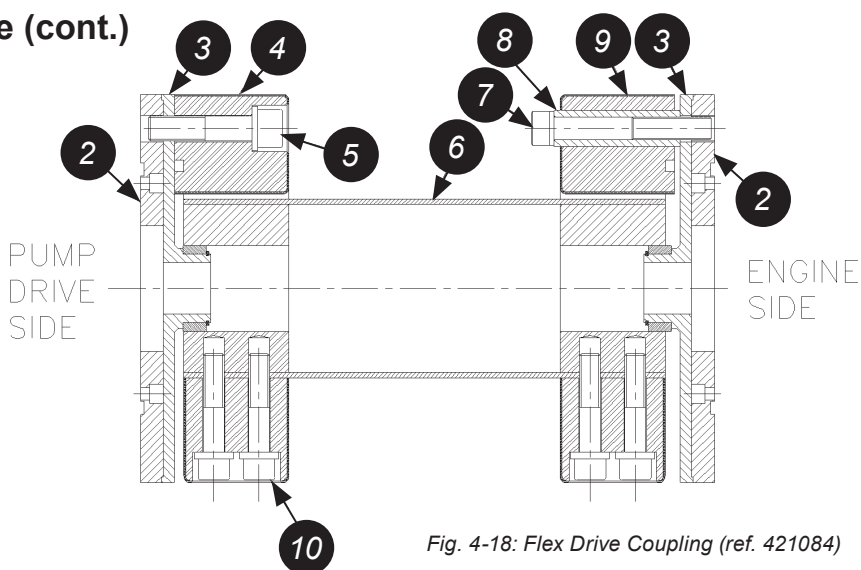
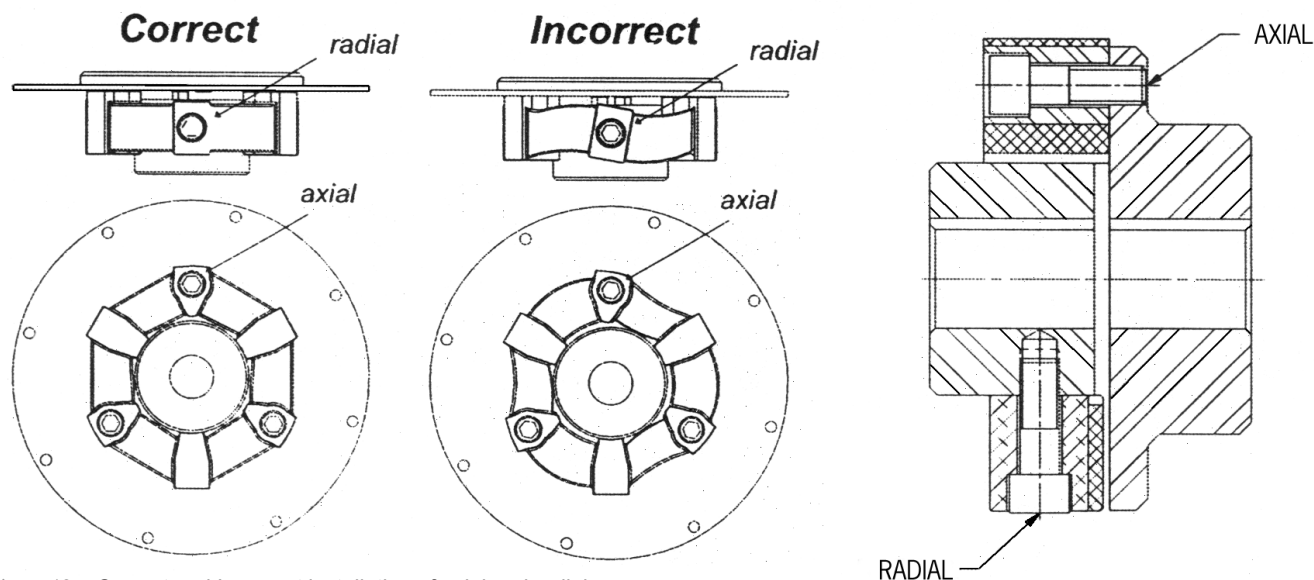

Fig. 4-18: Flex Drive Coupling (ref. 421084)
Fig. 4-18a: Correct and Incorrect installation of axial and radial capscrews.
2. Place a small amount of grease under the head of each capscrew. This reduces the possibility of twisting the rubber element (see fig. 4-18a). Install 8 pre-coated axial capscrews (longer) finger tight. Be sure the flexible flange with the steel sleeves is on the engine side (fig. 4-18).
3. Rotate the tube (item 6, fig. 4-18) so all 8 axial capscrews (shorter) can be installed finger tight.
NOTE: Use caution when tightening capscrews to prevent twisting of the flexible flange, see fig. 4-18a. This is particularly important for the radial capscrews. If the part is twisted, the cylindrical surface between the insert and the hub does not carry the load with the whole surface, but with the two corners only. If this happens the other radial bolts can loosen and the coupling will be destroyed.